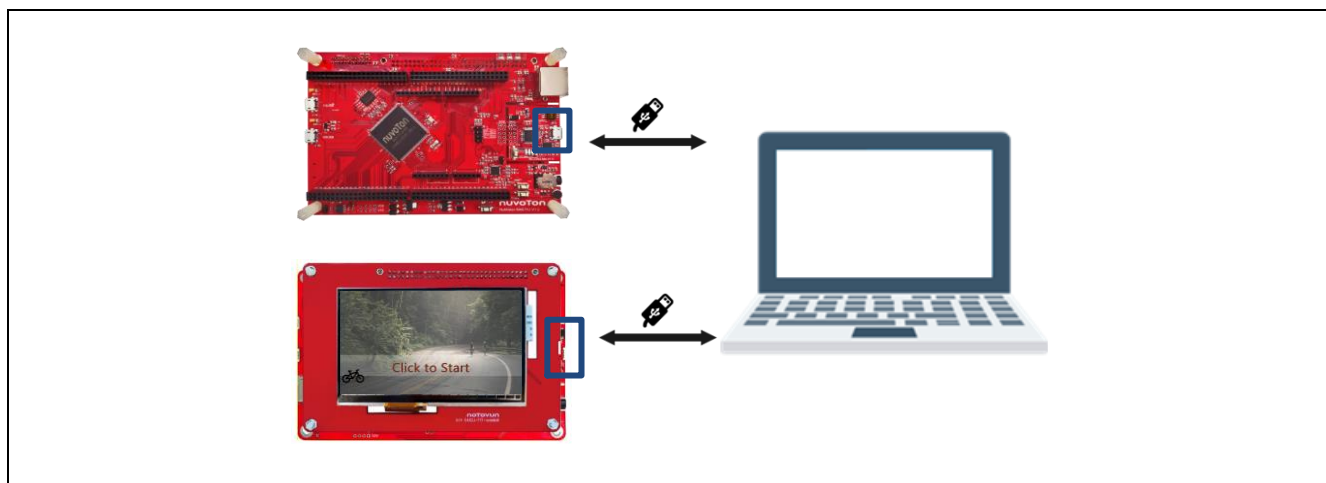

Figure 3-1 Connect NuMaker-HMI-M467 and PC
- Connect the Nu-Link2-Me and the daughter board's screen USB connector to the PC using two USB cables, as shown in Figure 3-1.